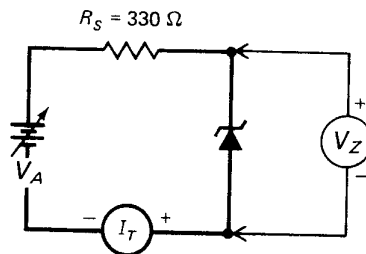

Fig. 53-5. Zener diode circuit.
1. Connect the circuit shown in Fig. 53-5.
7. Connect a 4.7-k Ω resistor across the zener diode, keeping the rest of the circuit the same as shown in Fig. 53-5.
5. What was the purpose of R_S in the circuit in Fig. 53-5?